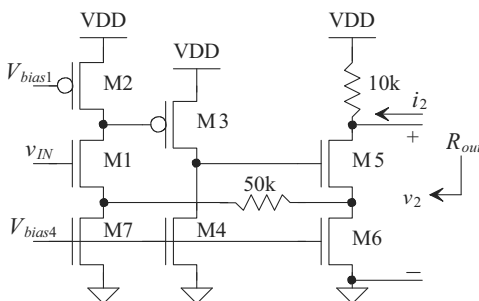

Figure 31.61 Series-series feedback amplifier with source-follower output buffer.
- 31.19** Using the series-series feedback amplifier shown in Fig. 31.61, (a) identify the feedback topology, (b) verify that negative feedback is employed, (c) draw the closed-loop small-signal model, and (d) find the values of $R_{\beta i}$ and $R_{\beta o}$.
- 31.20** Using the series-series amplifier shown in Fig. 31.61 and the results from problem 31.19, (a) draw the small-signal open-loop model for the circuit and (b) calculate the open-loop parameters, A_{OL} , β , R_p , and R_o and (c) the closed-loop parameters, A_{CL} , R_{in} , and R_{out} .